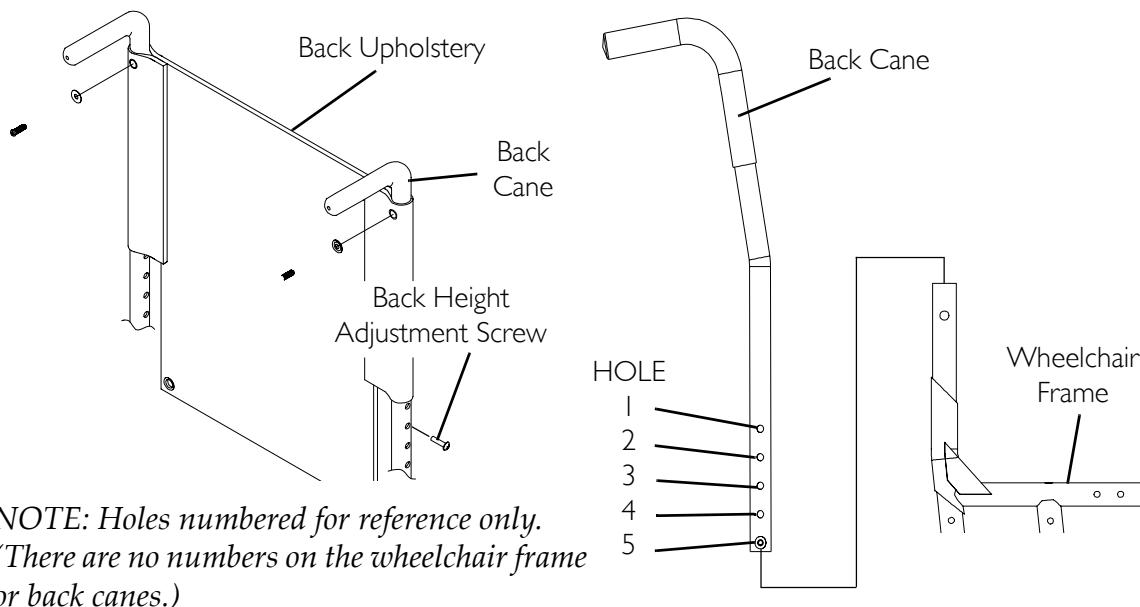

FIGURE 5.1 Adjusting the Back Height
NOTE: For this procedure, refer to FIGURE 5.1.
1. Remove the two (2) back height adjustment screws and locknuts that secure the two (2) back canes to the wheelchair frame.
2. Reposition the back canes to one (1) of five (5) height adjustment holes (FIGURE 5.1).